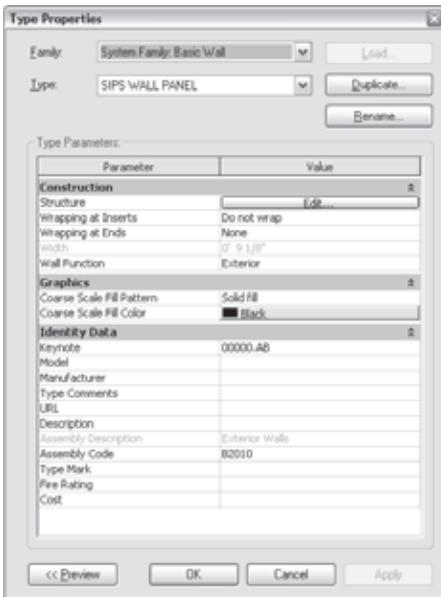

Figure 10.57
**Element** This value can be set in the properties of the various families in a Revit project. By selecting a wall, for example, you can open this wall's properties, and then click Edit Type to reach the wall type properties. Under Identity Data, you can then define a keynote (Figure 10.57). Selecting this field, you will be presented with the same Keynote table that you'd receive if noting this element in a view. If the note is incorrect for this project or element, you have the option to change the note here as well.